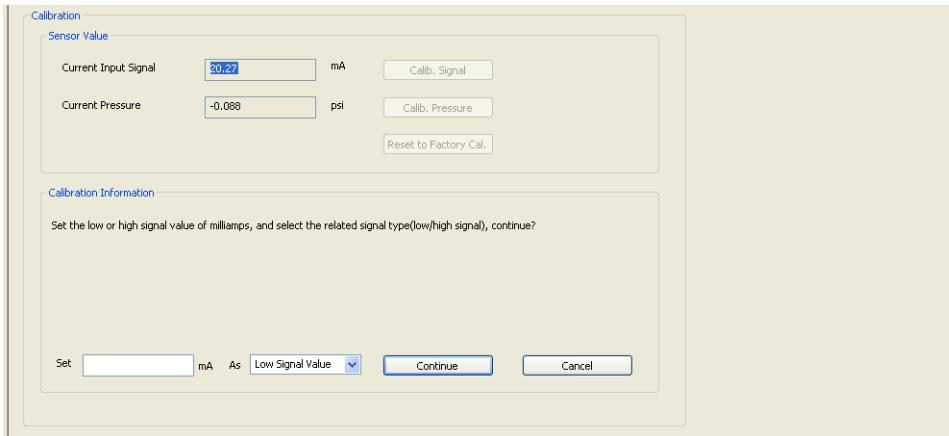

Figure 66 Calibration Calibration Screen with Calibration Information Pane - Input Signal
3. Click **Continue** and Figure 66 appears.